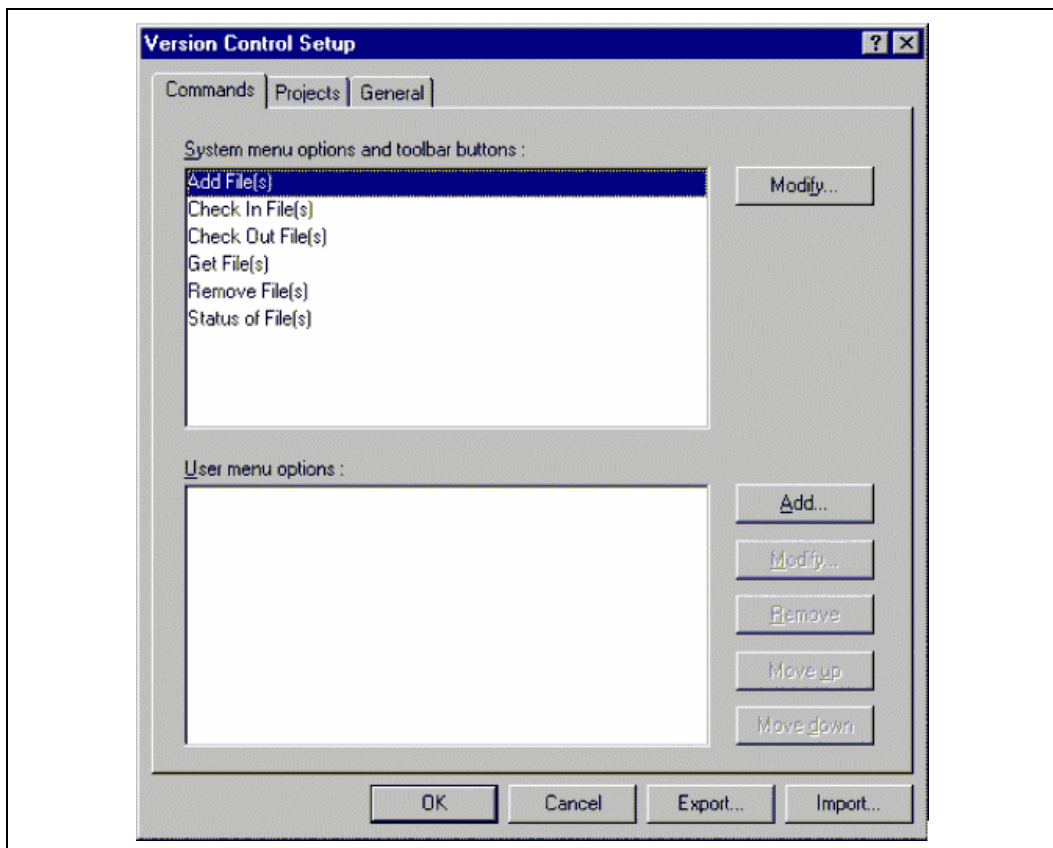
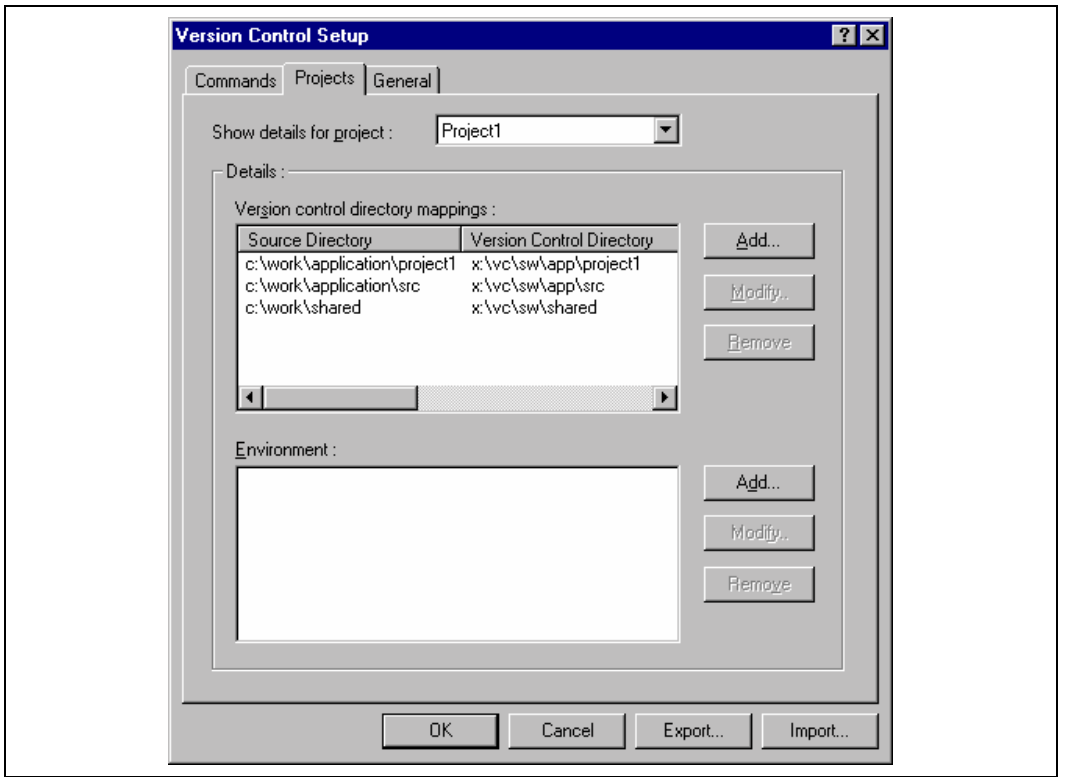

Figure 8.1: Version Control Setup Dialog Commands Tab
Figure 8.7: Version Control Setup Dialog Projects Tab
The custom version control support allows you the most flexibility in specifying how a version control system is to be used. To configure it, select **[Version Control->Configure...]**. The “Version Control Setup” dialog will be displayed (figure 8.1).
1. Select [Version Control->Configure...]. The dialog shown in figure 8.1 will be displayed.
1. Select [**V**ersion **C**ontrol->**C**onfigure...]. The dialog shown in figure 8.1 will be displayed.
1. Select [**Version Control->Configure...**]. The dialog shown in figure 8.1 will be displayed.
However, when executed, this command can only ever get the file MAIN.C. To resolve this problem, HEW uses a system of placeholders and directory mappings. The latter tell the HEW which "working" directories (i.e. where source files are being worked on) map to which "controlled" directories (i.e. where the source files are stored in the version control system). Mappings between these two directory systems can be specified via the "Projects" tab of the "Version Control Setup" dialog (figure 8.7).
1. Select [**Version Control->Configure...**]. The dialog shown in figure 8.1 will be displayed. Select the “Projects” tab, and the dialog shown in figure 8.7 will be displayed.
1. Select [**Version Control->Configure...**]. The dialog shown in figure 8.1 will be displayed. Select the “Projects” tab, the dialog shown in figure 8.7 will be displayed.
Select the “Projects” tab of the “Version Control Setup” dialog to view the current settings (figure 8.7).